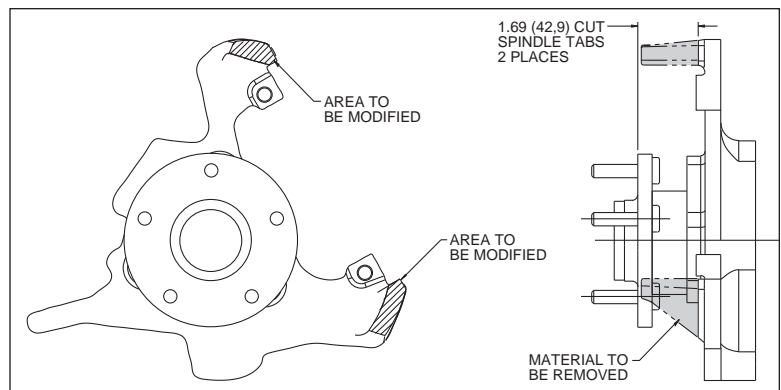

Figure 2. Spindle Modifications
- Before any tear-down or disassembly begins, modifications are required to the stock spindle. These include removing the original equipment caliper slides from the stock spindle that will interfere with the assembly of the Wilwood disc brake kit. It is recommended that these modifications be performed by a qualified machine shop. Please refer to the modification procedure and Figure 2 below.
• These modifications should be performed by a qualified machinist. Refer to Figure 2, right. Only one view of the spindle is shown, but the modifications need to be performed on both spindles.